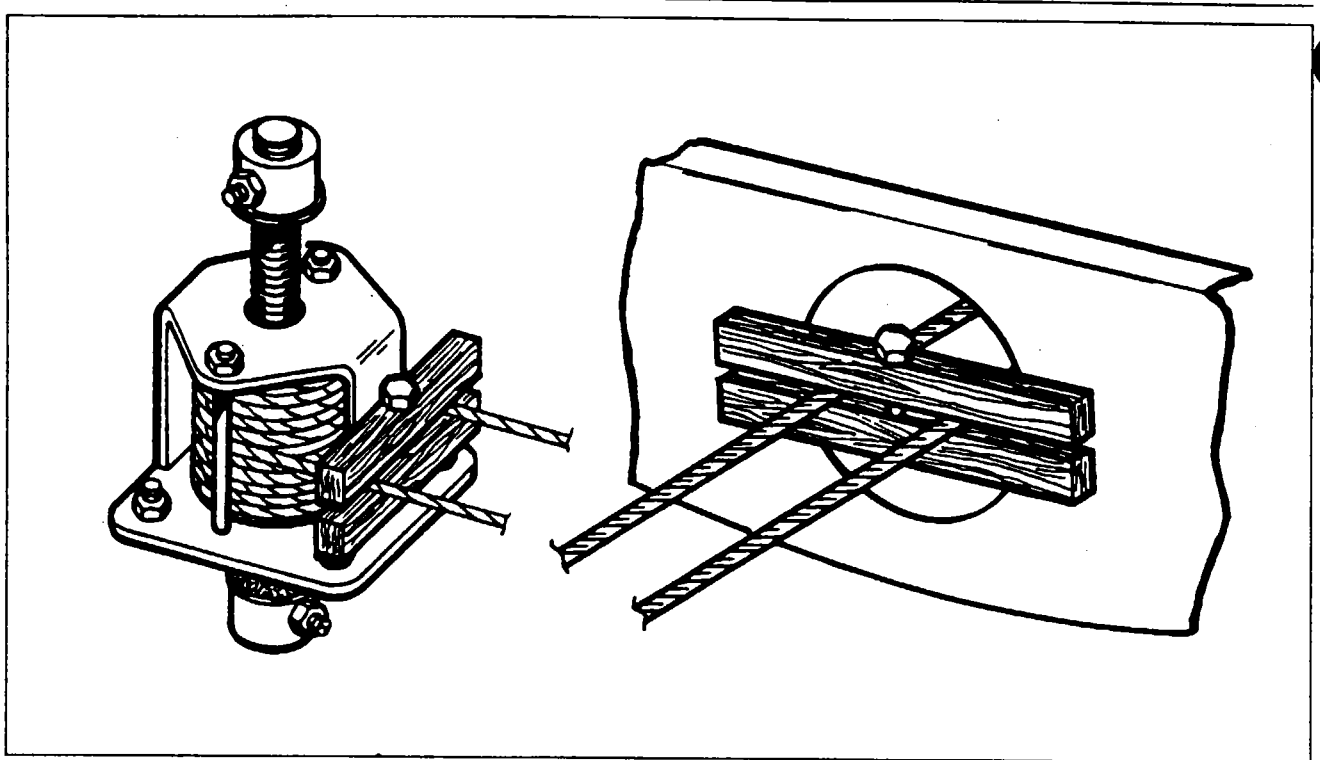

Figure 5-8. Methods of Blocking Trim Cables
- c. Block the forward trim cables (6) at the trim screw assembly below the control pedestal and the aft cables (13) at bulkhead 317.75, to prevent the cables from unwrapping from their drums, by one of the methods shown in Figure 5-8. (If the aft screw assembly (19) is also to be removed, then remove the access plate attached to the underside of the horizontal stabilizer and block the cables at the screw assembly instead of in the fuselage.)
- d. Mark one set of cable ends at station 308 to facilitate installation and disconnect the cables at the turnbuckles (12).
- b. Block the trim cables to prevent them from unwrapping at the screw assembly within the horizontal stabilizer and within the fuselage at bulkhead station 274 by one of the methods shown in Figure 5-8. (If the forward trim assembly is also being removed, block the cables at the forward trim screw below the pedestal.)
- c. Mark one set of cable ends within the fuselage at station 308 to facilitate installation and disconnect the cables at turnbuckles (12).
- d. Disconnect the trim tube assembly (44) from the trim screw assembly by removing the two attachment bolts.